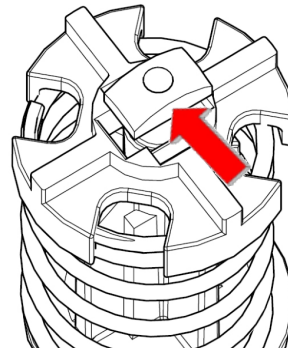

Figure 5
3. Move the switch lever to the "ON" (raised) position to start the motor (figure 5). The pump should start and settle into a slow idle.
1. Using needle nose pliers, place the bypass valve retainer on top of the bypass valve spring. Carefully align the slot in the top of the bypass valve retainer with the locking tab on top of the bypass valve (Figure 5).